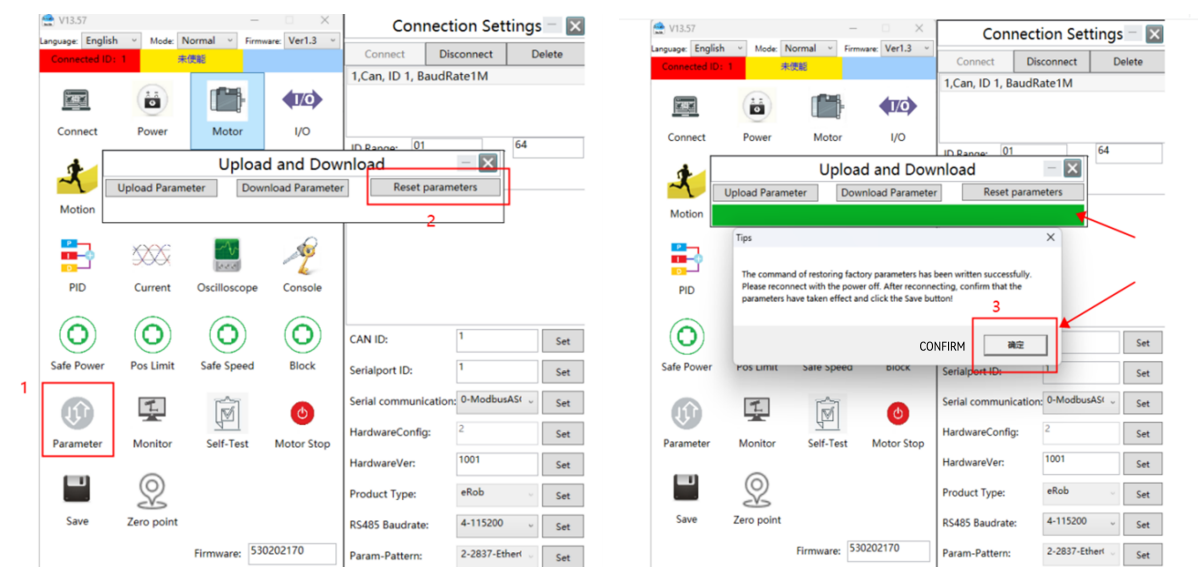

Figure 20-1 Operation of Restoring Factory Parameters
The operation steps of restoring factory parameters are as shown in Figure 20-1.
- (1) Connect eTuner (refer to YouTube Tutorial) and then click “Parameter”, the “Upload and Download” window pops up.
- (2) Click “Reset parameters” and wait until the progress bar is completed. Click “Confirm” in the “Tips” window as shown in Figure 20-1.
- (3) Power off and restart, reconnect in the “eTuner” software, confirm the parameters are restored. Then click “Save” to save the restored parameters.